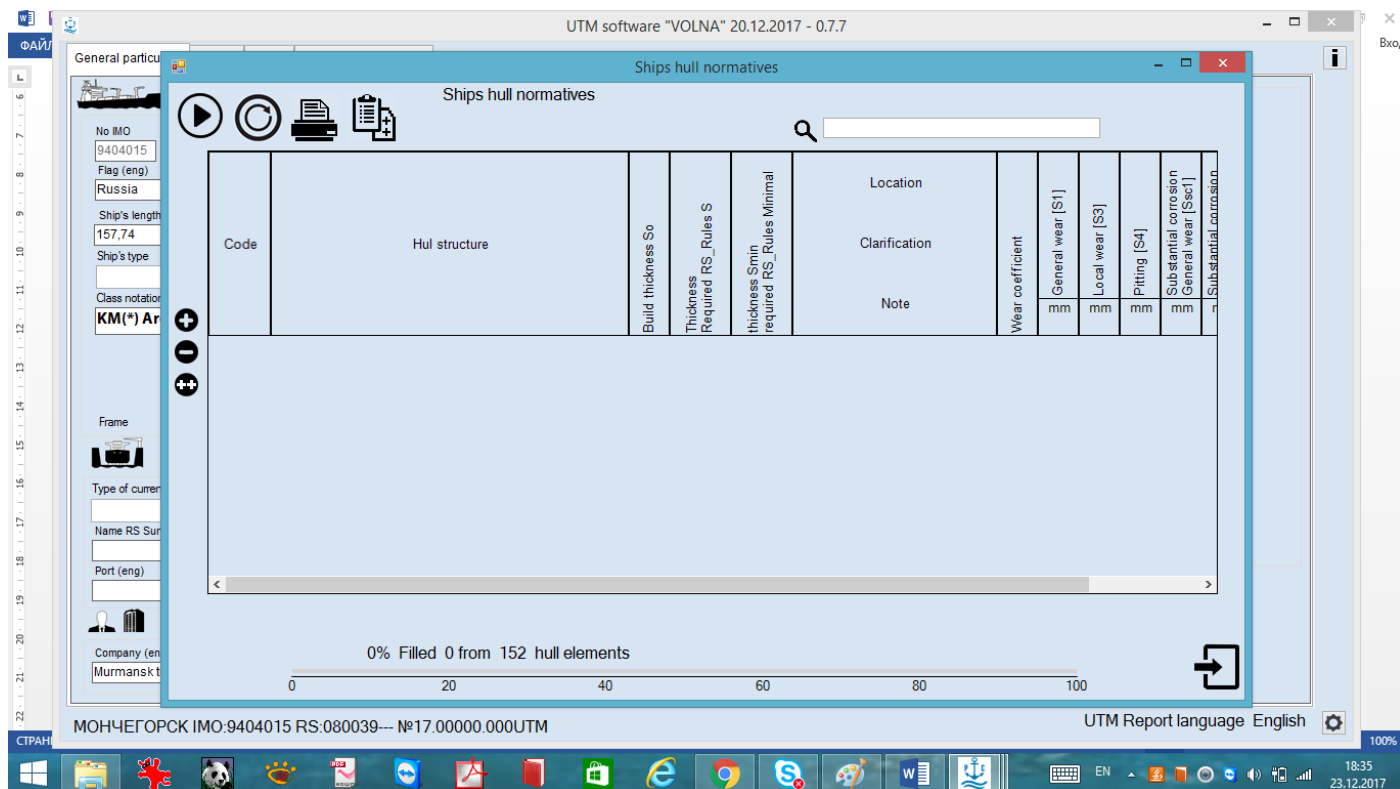

Figure 12. Tab "Ships hull normatives"
- 3) Upon clicking on the button “**Normatives [S]**” the following tab appears (fig.12):